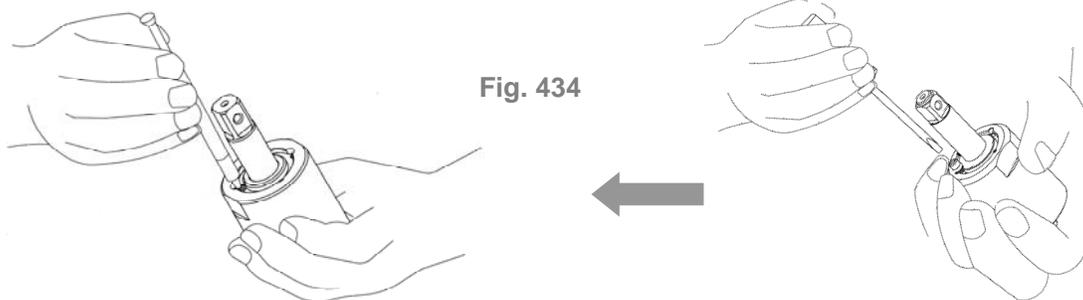

Fig. 434
- ⑤ Loosen the greasing screw again and use an injector to draw out a little amount of oil (see Table 62) . Finally, tighten the greasing screw back to the pulse cylinder unit, Fig. 434.